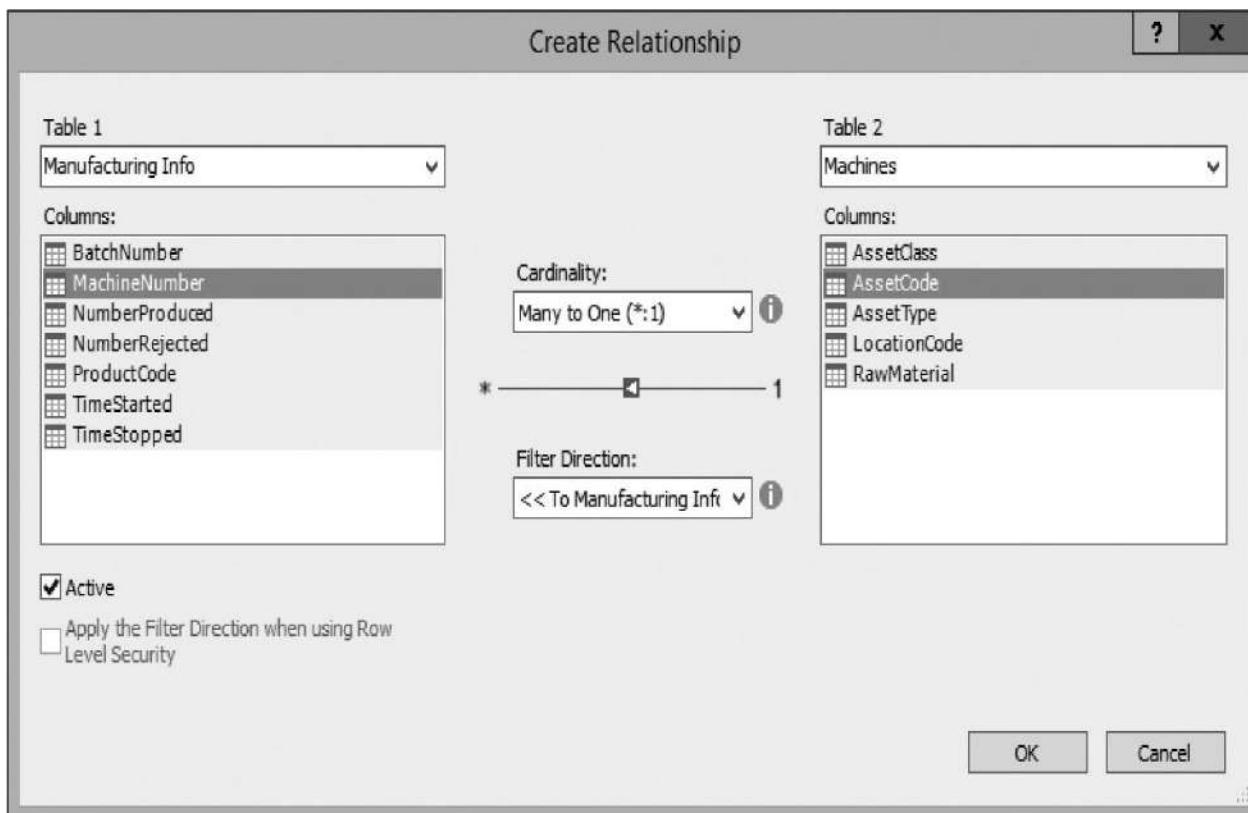

Figure 9-25 The Create Relationship dialog box
6. Select AssetCode from the Columns list for Table 2. The Create Relationship dialog box correctly determines that we are creating a many-to-one relationship with many rows in the Manufacturing Info table linked to one row in the Machines table. It defaulted to having a row selected in the Machines table filter the rows displayed in the Manufacturing Info table. These default decisions are correct. The Create Relationship dialog box appears, as shown in Figure 9-25.